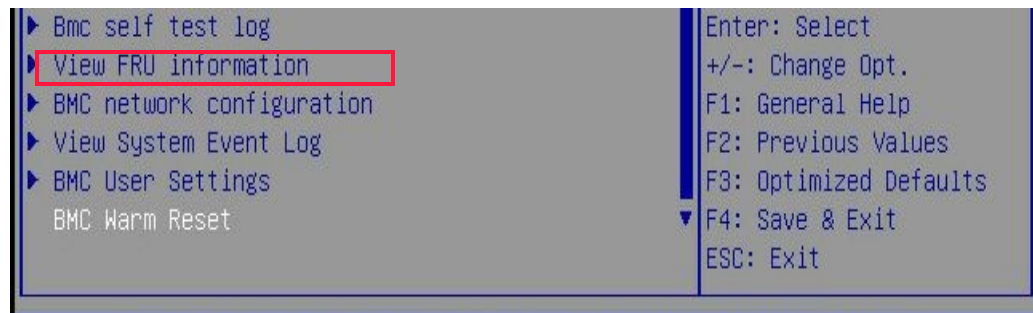

Figure 3.4 Server Mgmt tab
- Press the right arrow key to navigate to the **Server Mgmt** tab, which displays as shown in Figure 3.4 that follows.